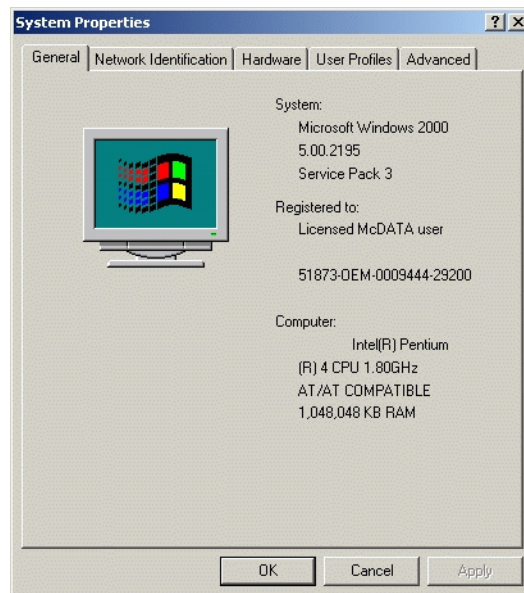

Figure 2-73 System Properties Dialog Box (General Tab)
- b. Double-click the *System* icon. The *System Properties* dialog box displays with the *General* page open (Figure 2-73). Record the Product ID number listed under the *Registered to* heading.